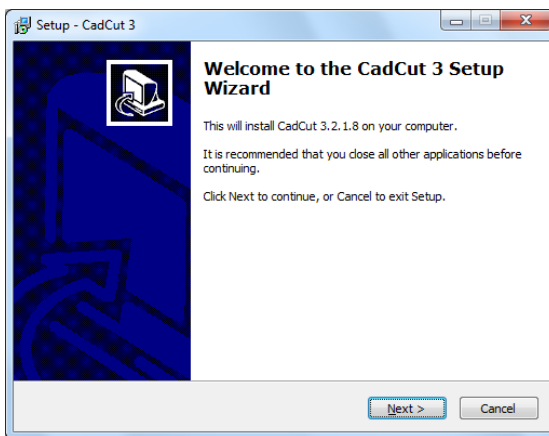

Fig. 9 – installation wizard
- After the initiation of the installation you will see a window with program information, which you should make yourself familiar with (Fig. 9).